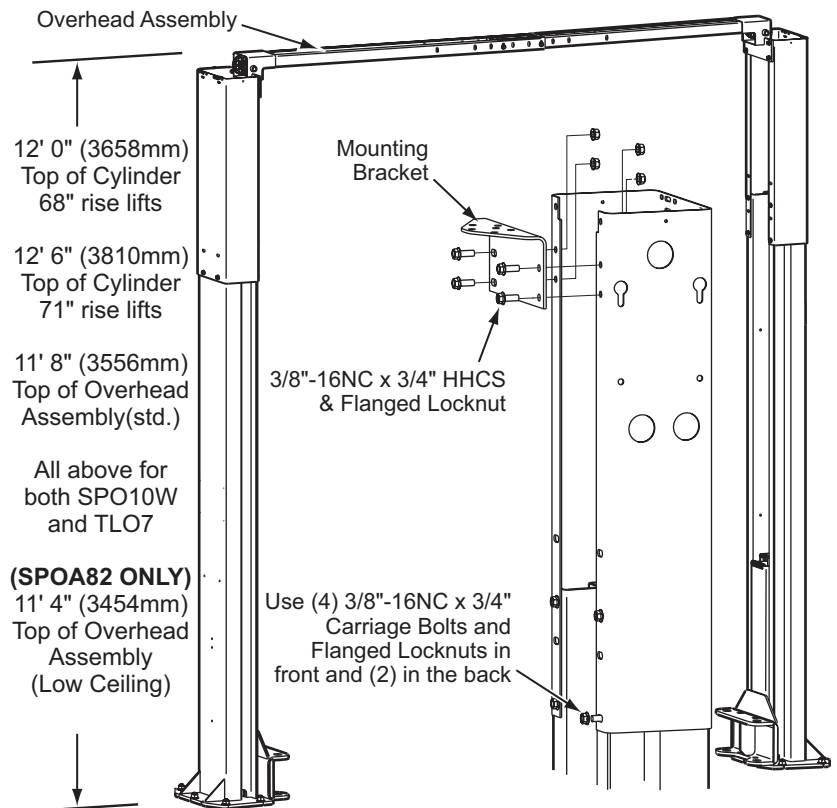

Fig. 3
3. Column Extensions: Before standing columns upright, install the column extensions using (12) 3/8"-16NC x 3/4" Carriage HHCS and Flanged Locknuts, Fig. 3. Note which holes in column and extension to use, Fig. 1b.
5. Overhead Mounting Bracket: Install Mounting Brackets to column extensions as shown, Fig. 3.